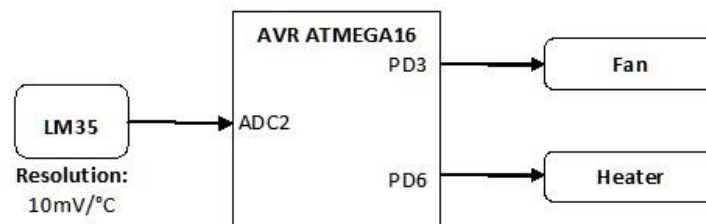

Figure 10: Controlling Heat of the environment based on the temperature of the environment
18. By considering figure 10, imitate a source code for a system, that continuously check temperature, if temperature is greater than XX, it should turn the fan ON & Heater OFF and if it is less than XX, it should turn ON Heater and turn OFF Fan. where XX represents your Roll number (e.g., 19ESXX).